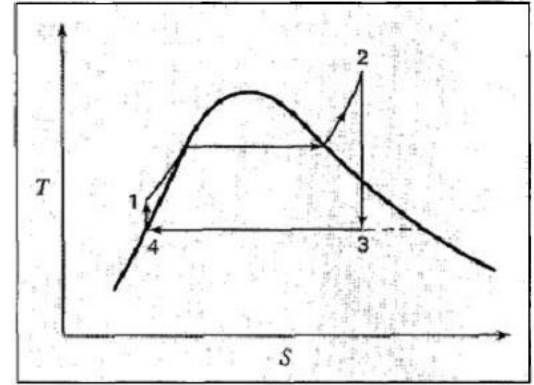

Figure 8.3 The Rankine cycle
For these reasons, an alternative model cycle is taken as the standard, at least for fossil-fuel-burning power plants. It is called the Rankine cycle, and differs from the cycle of Fig. 8.2 in two major respects. First, the heating step 1 - 2 is carried well beyond vaporization, so as to produce a superheated vapor, and second, the cooling step 3 - 4 brings about complete condensation, yielding saturated liquid to be pumped to the boiler. The Rankine cycle therefore consists of the four steps shown by Fig. 8.3, and described as follows:
- 2 - 3 Reversible, adiabatic (isentropic) expansion of vapor in a turbine to the pressure of the condenser. The step normally crosses the saturation curve, producing a wet exhaust. However, the superheating accomplished in step 1- 2 shifts the vertical line far enough to the right on Fig. 8.3 that the moisture content is not too large.
- 4 - 1 Reversible, adiabatic (isentropic) pumping of the saturated liquid to the pressure of the boiler, producing compressed (subcooled) liquid. The vertical line (whose length is exaggerated in Fig. 8.3) is very short, because the temperature rise associated with compression of a liquid is small.